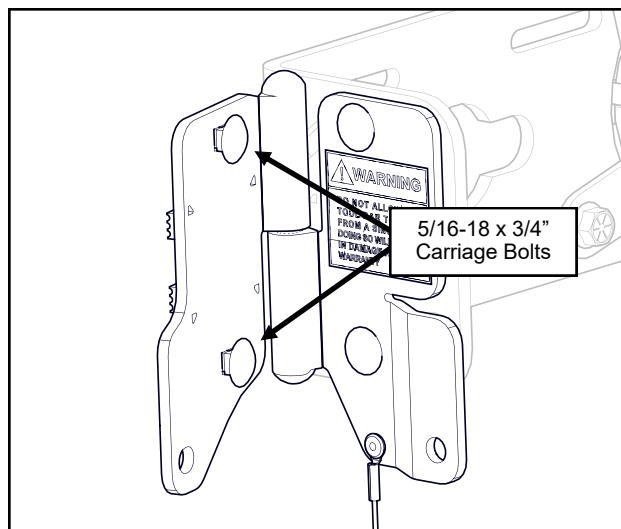

Fig. 5 (Place Bar Brackets & bolts)
5. Slide a Bar Bracket from the quick release kit onto each pin and insert two 5/16-18 x 3/4" carriage bolts through the square holes in each bracket (see figure 5). Rotate the bracket parallel to the pin pin bracket.